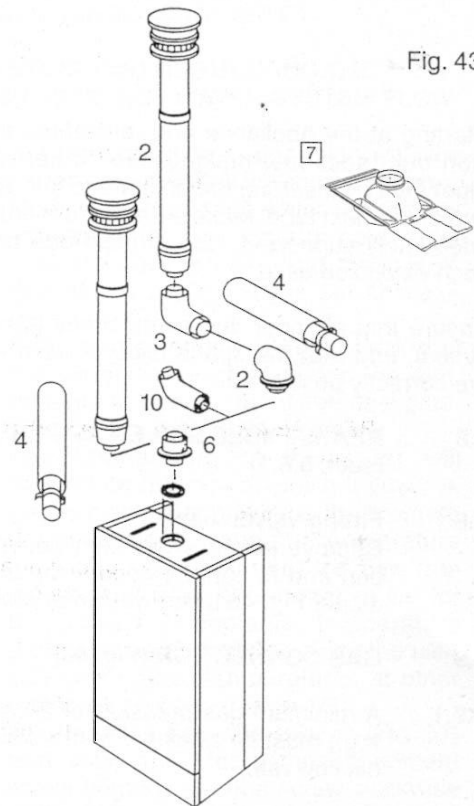

Fig. 43
- Position the straight header on the top of the appliance (Fig. 43) item 6, and ensure that the gasket is correctly fitted.
Fit a roof flashing sleeve (7 Fig. 43) to the roof, available from Ravenheat Manufacturing.